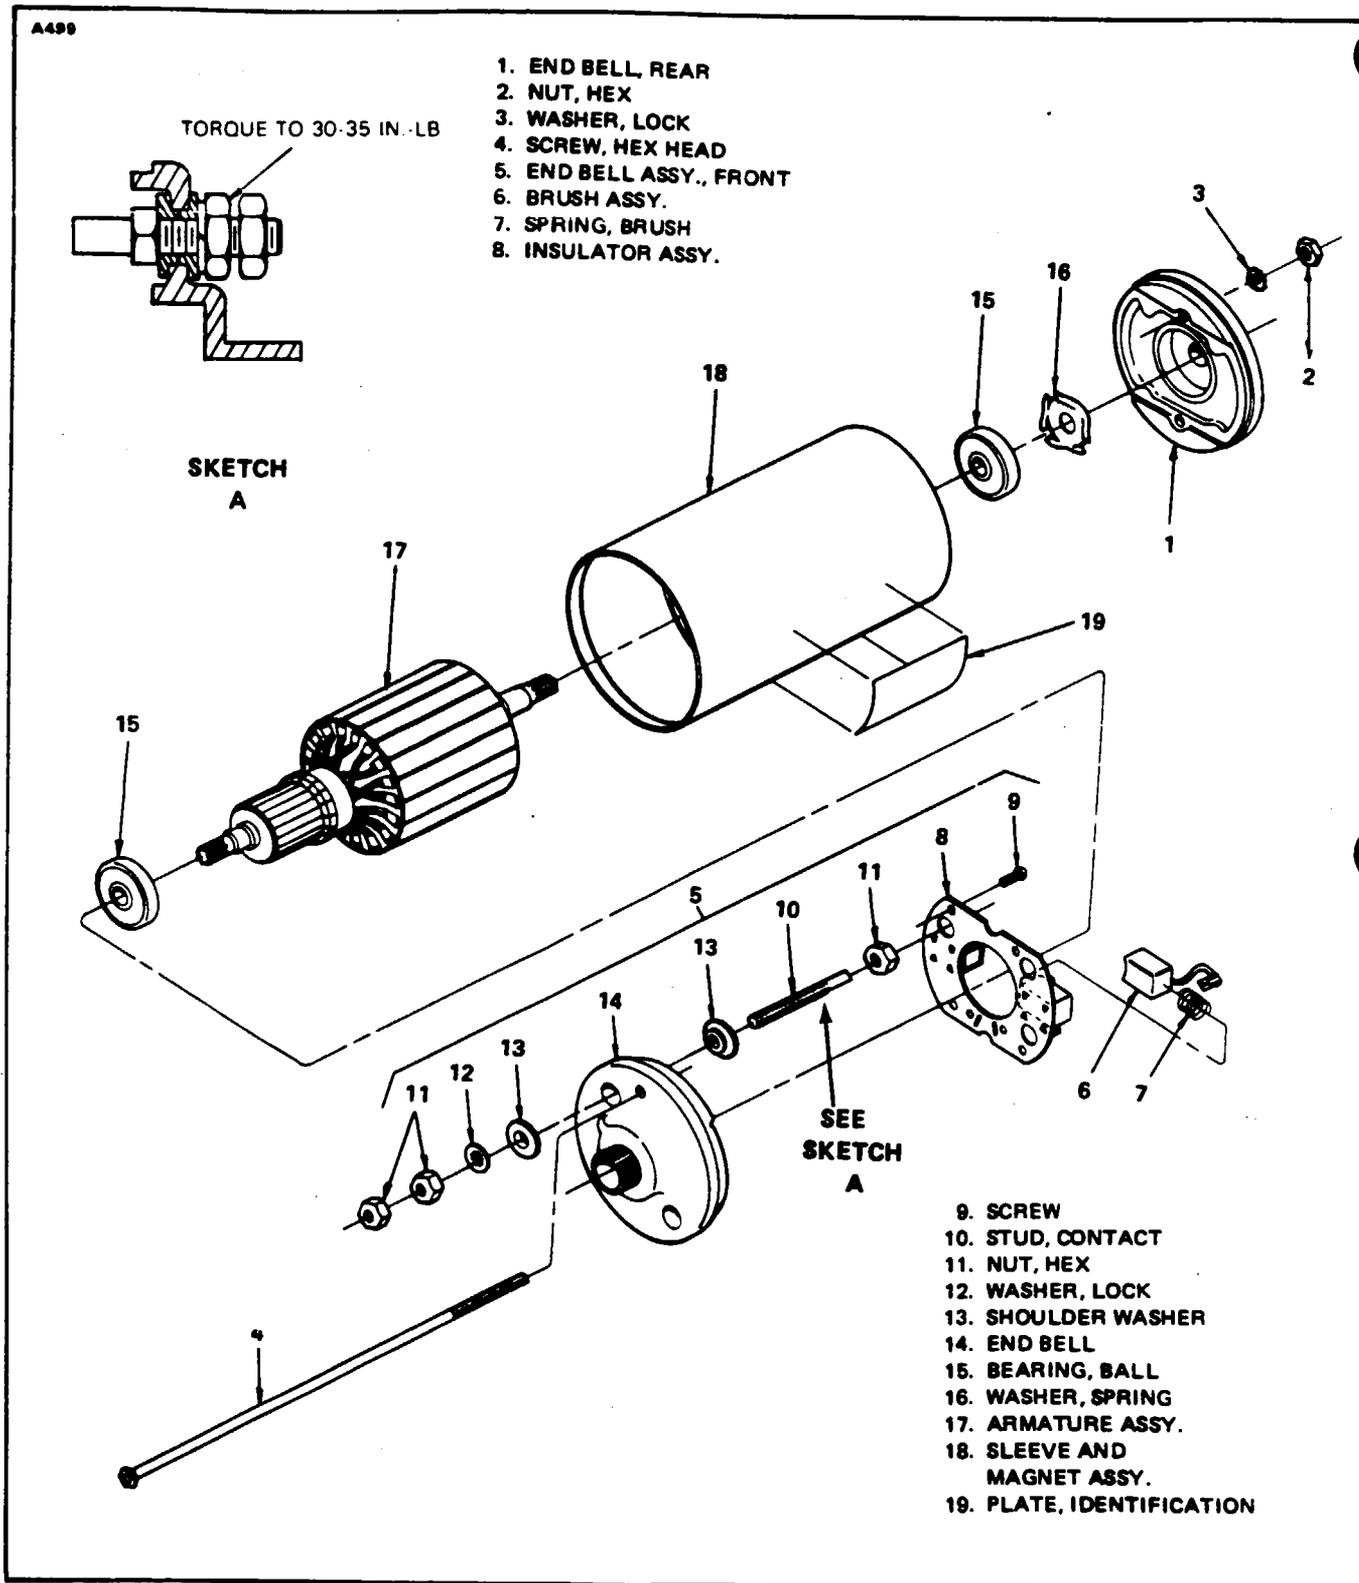

Figure 27-26. Motor Assembly. Exploded View
#### **DISASSEMBLY OF FLAP ACTUATOR MOTOR. (Refer to Figure 27-26.)**
**ASSEMBLY OF FLAP ACTUATOR MOTOR. (Refer to Figure 27-26.)**
1. Assemble shoulder washers, contact studs, lockwashers and nuts to front end bell. Position flat on contact studs parallel to the side of the brush holder. Torque outer nut to 30 to 35 inch-pounds. (See Sketch A of Figure 27-26.)